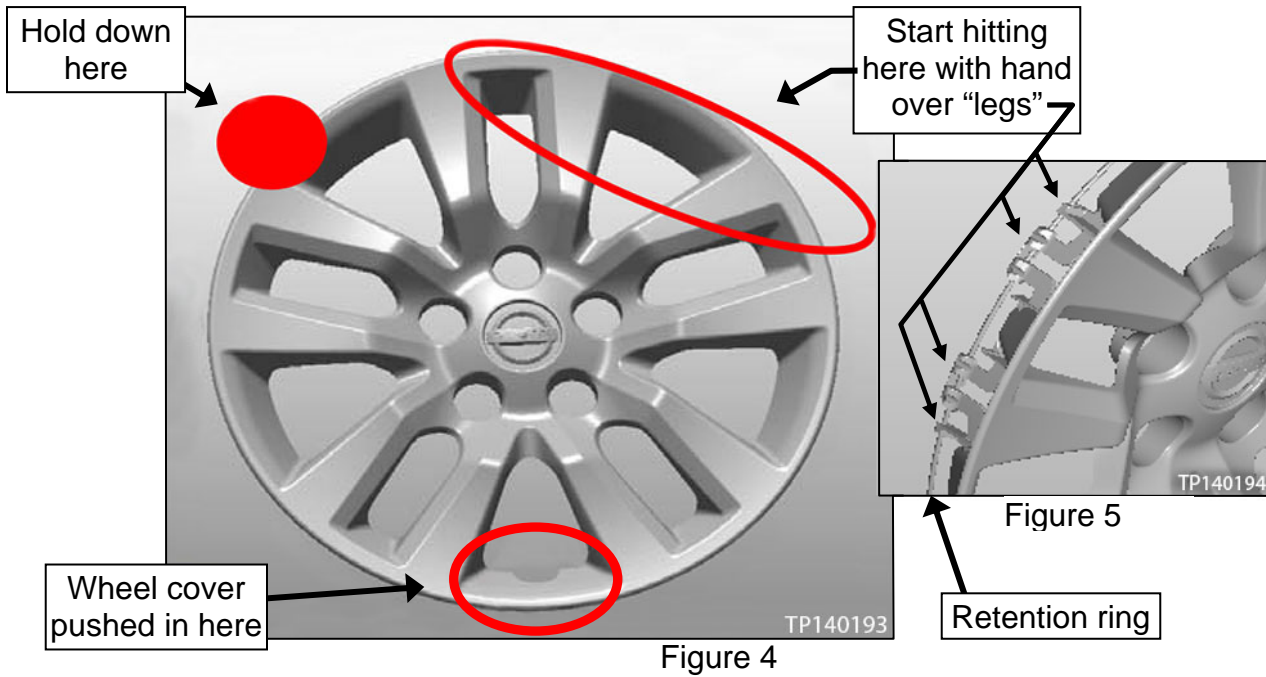

Figure 4
3. Hold the wheel cover where shown in Figure 4 and 6 while keeping it pushed into the road wheel around the valve stem.
4. While holding the wheel cover as stated in step 3, hit on the wheel cover edge starting in the area shown in Figure 4 and 6.